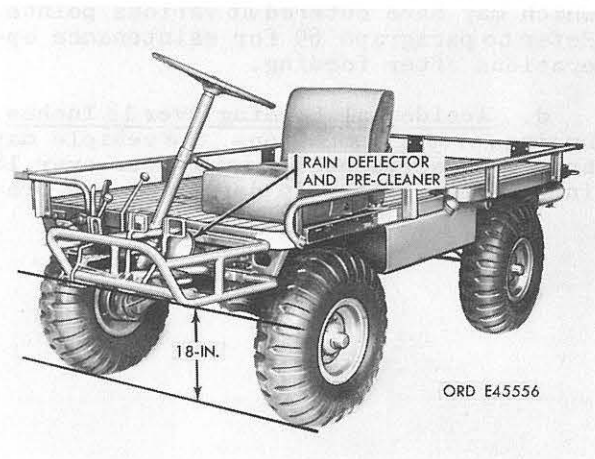
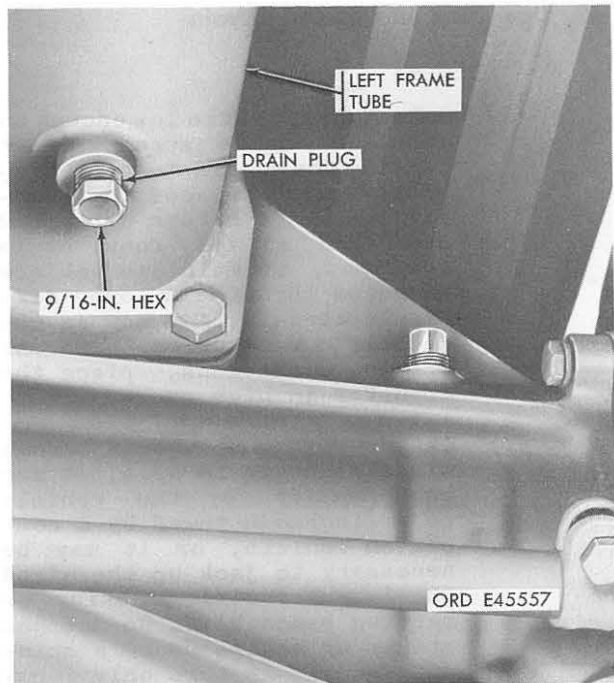

Figure 48. Determining depth of water.
Figure 49. Location of water drain plug at rear end of left frame tube - M274A1 vehicle.
a. General. In fording, vehicles may be subjected to water of varying depth. Factors to be considered are spray-splashing precautions, normal fording capabilities, and accidental complete submersion. It is important that water does not enter the rain deflector and precleaner (fig. 48) during fording operations. Submersion of the rain deflector and precleaner would allow water to enter the air intake system and stall engine.
b. Normal Fording. Fording of bodies of water up to a maximum depth of 18 inches (fig. 48), is based on the standard vehicle with normal waterproofing protection provided for critical units as manufactured, without a deep-water fording kit. Observe the following precautions:
cleaner (fig. 48) may have been momentarily submerged in water, allowing water to enter the air intake system and collect in the left frame tube (fig. 49). In this event, as a precaution, remove drain plug at rear end of left frame tube using emergency starting crank and wheel nut wrench (figs. 28 and 29). Drain water from tube and install plug.